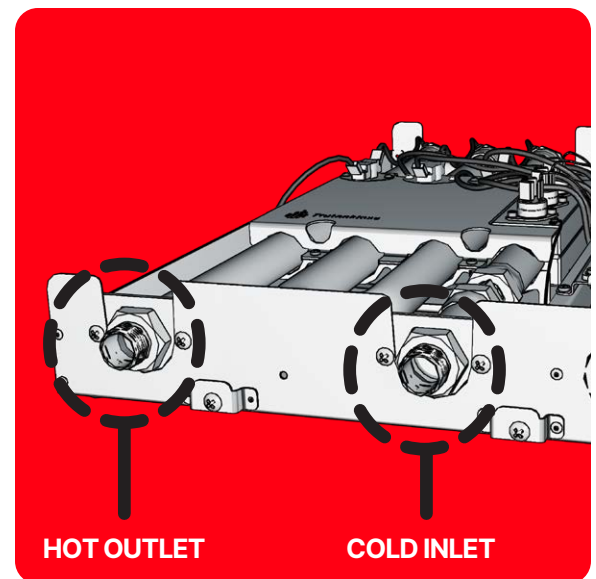

Figure 7 – Water Supply Plumbing Connections (at bottom of unit)
The **GEN3** unit must be connected to the local potable water supply, and the unit has two (2) plumbing connections (see Figure 7).